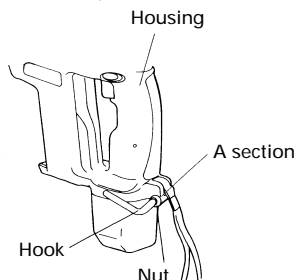

Fig. 4
- (1) Insert the hook into the A section of the main body then turn it clockwise to set the clearance between the housing and hook to the appropriate position. Tighten the nut clockwise to fix the hook securely. (Fig. 4)
- (2) The hook can be hung on your belt or on a pipe with a diameter of up to 18 mm.